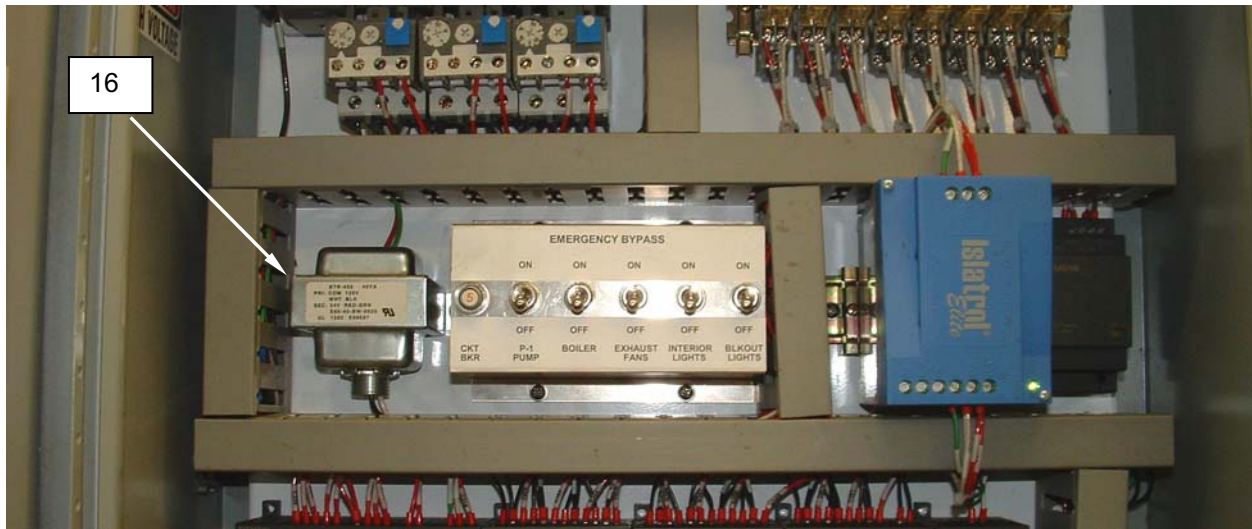

Figure 9. Replace the Control Transformer.
3. Remove the fasteners retaining the transformer (**Figure 9, Item 16**) to the PLC enclosure, and remove the transformer.
4. Locate the termination of the wiring from the transformer (**Figure 9, Item 16**), and tag and disconnect the wiring from the transformer.
5. Connect the replacement transformer (**Figure 9, Item 16**) wiring as tagged.
6. Install the replacement transformer (**Figure 9, Item 16**), and retain in place with fasteners in the PLC enclosure.